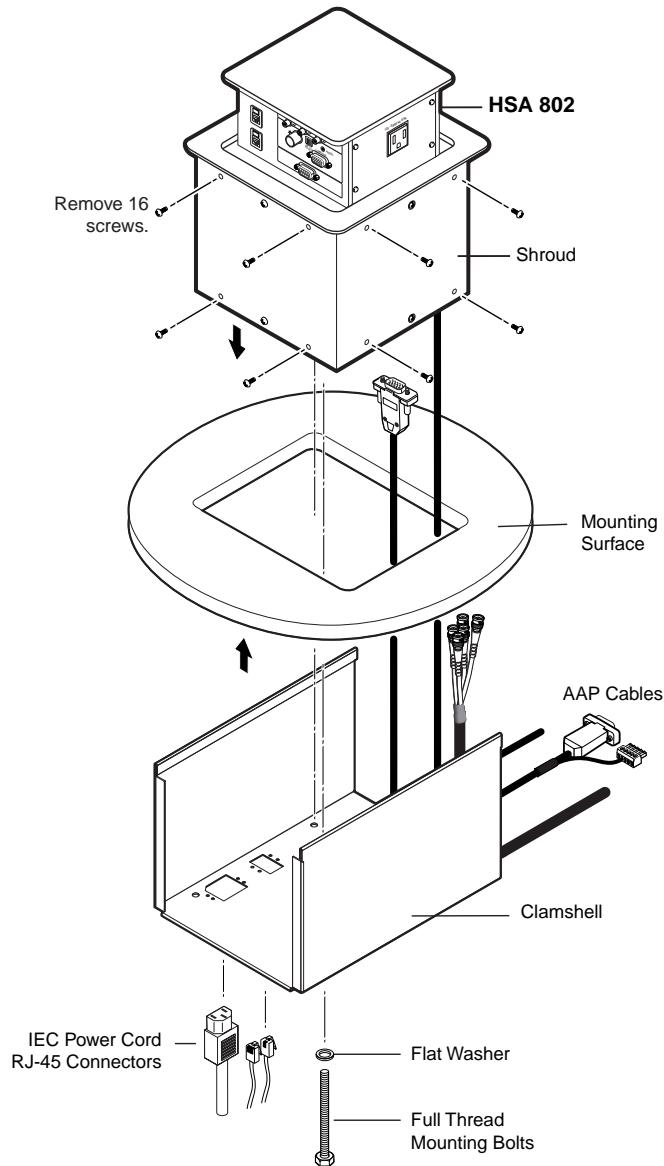

Figure 2-2 — Removing the HSA 802 from the table
4. On the underside of the table, remove the two bolts that secure the clamshell to the surface mount enclosure (figure 2-2). Lift the enclosure out of the table. Ensure that the cables connected to the AAPs do not snag or pull on any protrusions.